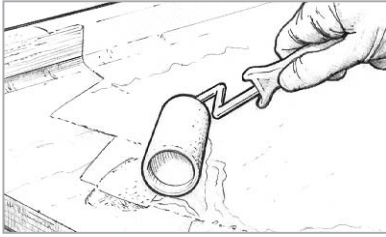

Figure 21 Wet out porous surfaces before applying fairing compound.
2. Wet out porous surfaces with unthickened epoxy (*Figure 21*).